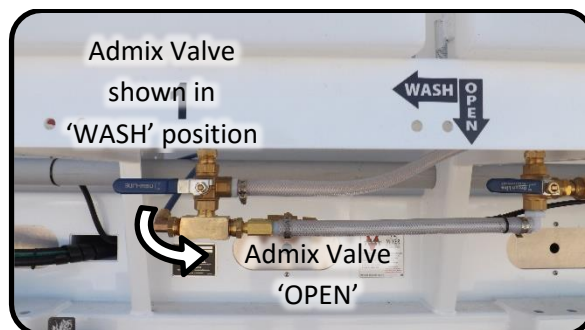

Figure 23. Admix tank valves shown in 'WASH' position.
1. Turn each admix valve to 'WASH' as shown in Figure 23.